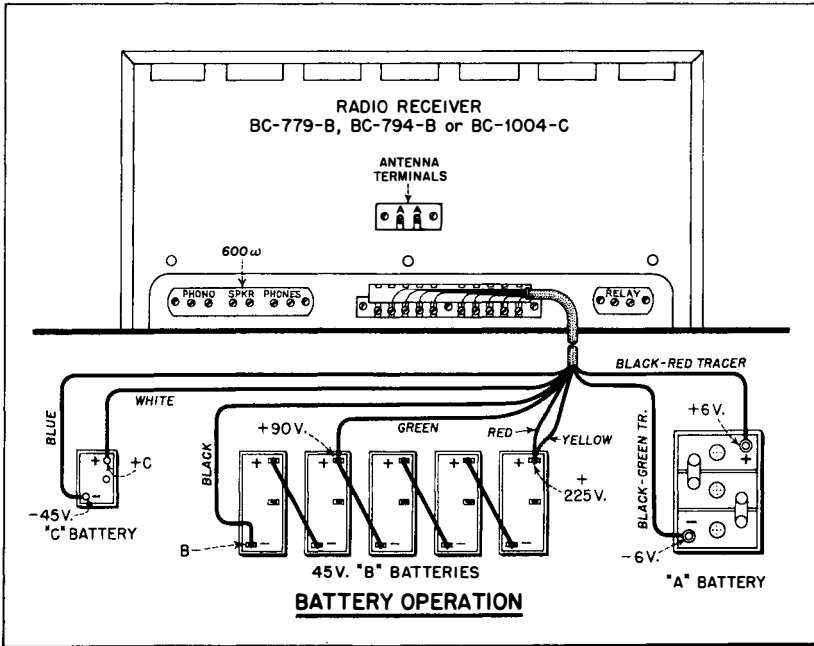

Figure 6. Cable Connections for Battery Operation
**2. POWER SOURCES.**—The receivers may be used with either of three power supply units as follows: Power Supply Unit RA-84-B, designed to operate from a 105-115-125-volt, 50-60-cycle power source; Power Supply Unit RA-74-C, designed to operate from a 95-130-volt, 190-260-volt, 25-60-cycle power source; or Power Supply Unit RA-94-A, designed to operate from a 115-or 230-volt, 50-60-cycle power source. The average power consumed is 180 watts. In an emergency any one of the receivers can be operated from a 6-volt storage battery, five 45-volt "B" batteries, and a 45-volt "C" battery connected as shown in FIG. 6.
The other end of it is made up of nine loose wires. Connect this cable according to FIG. 6 (note the color code for the nine loose wires). Connect this battery cable to the receiver first and replace the terminal cover *before* connecting the cable to the batteries. When discontinuing battery operation, disconnect the loose ends of the cable from the batteries *before* detaching the cable from the receiver. All operations of the receiver are the same with either the power supply unit or the battery set-up.